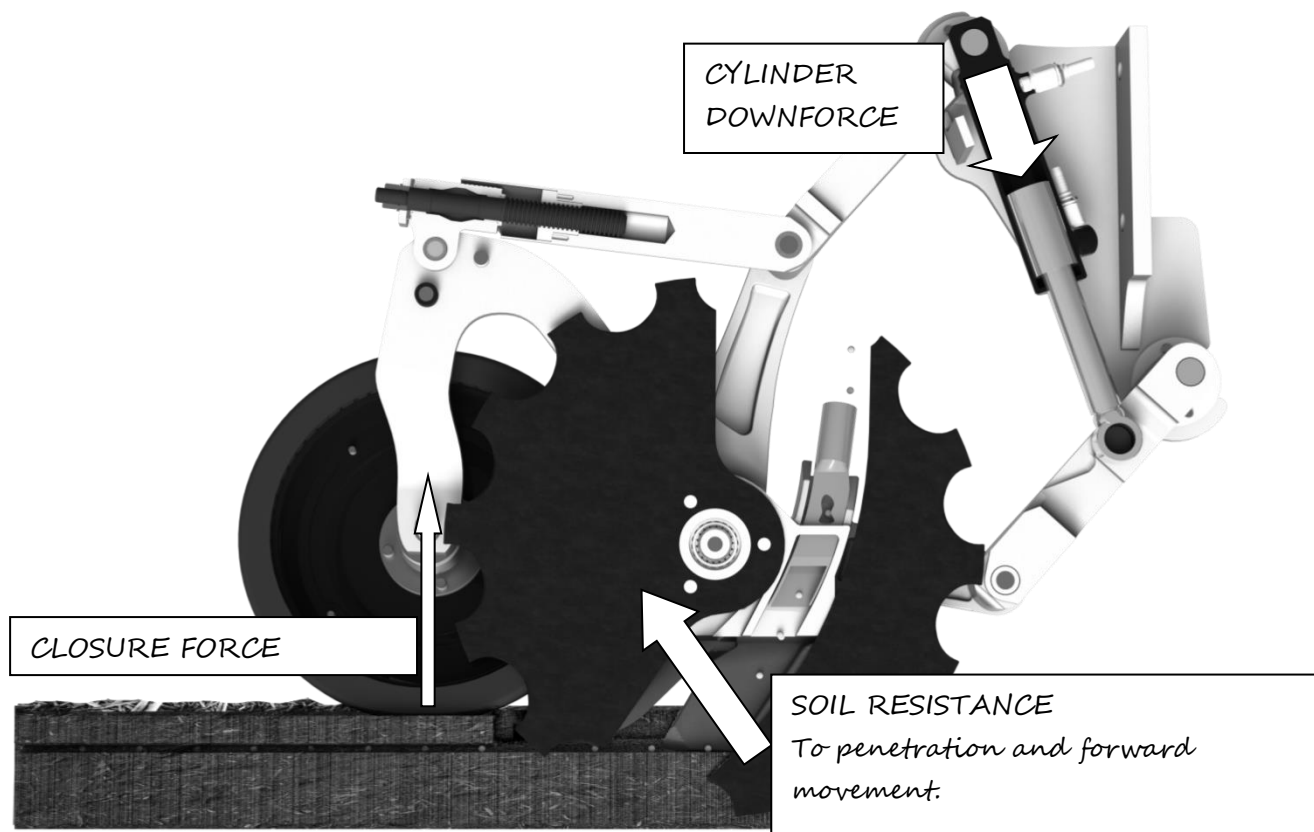

Fig. 49 : Description of closure force
- Use the Horizontal axis of the joystick see Fig. 49.